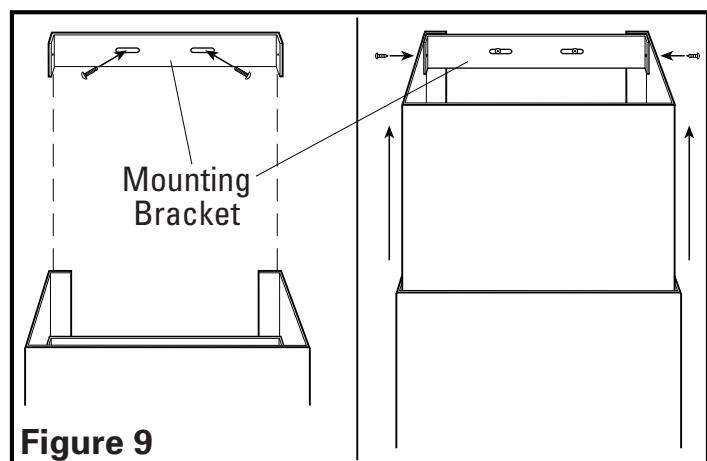

Figure 9
- To install the upper section, mark the location of the included horizontal mounting bracket using the bracket as a template. Make sure the bracket is level and in line with the bottom section. The height will be dependent on your installation requirements. Make sure the slots in the side of the chimney will match the holes in the mounting bracket. If installing onto drywall, drill holes into wall using a 3/16" drill bit. Install wall anchors into the drilled holes (one for each hole). Secure bracket into place with (2) provided #6 x 1" screws. If installing into other material (brick, cement, plaster, etc.) choose an appropriate fastener capable of supporting the weight of the chimney (**Figure 9**).
5. Raise top chimney in place over horizontal mounting bracket and secure in place with the two included #6 x 3/8" screws (**Figure 9**).